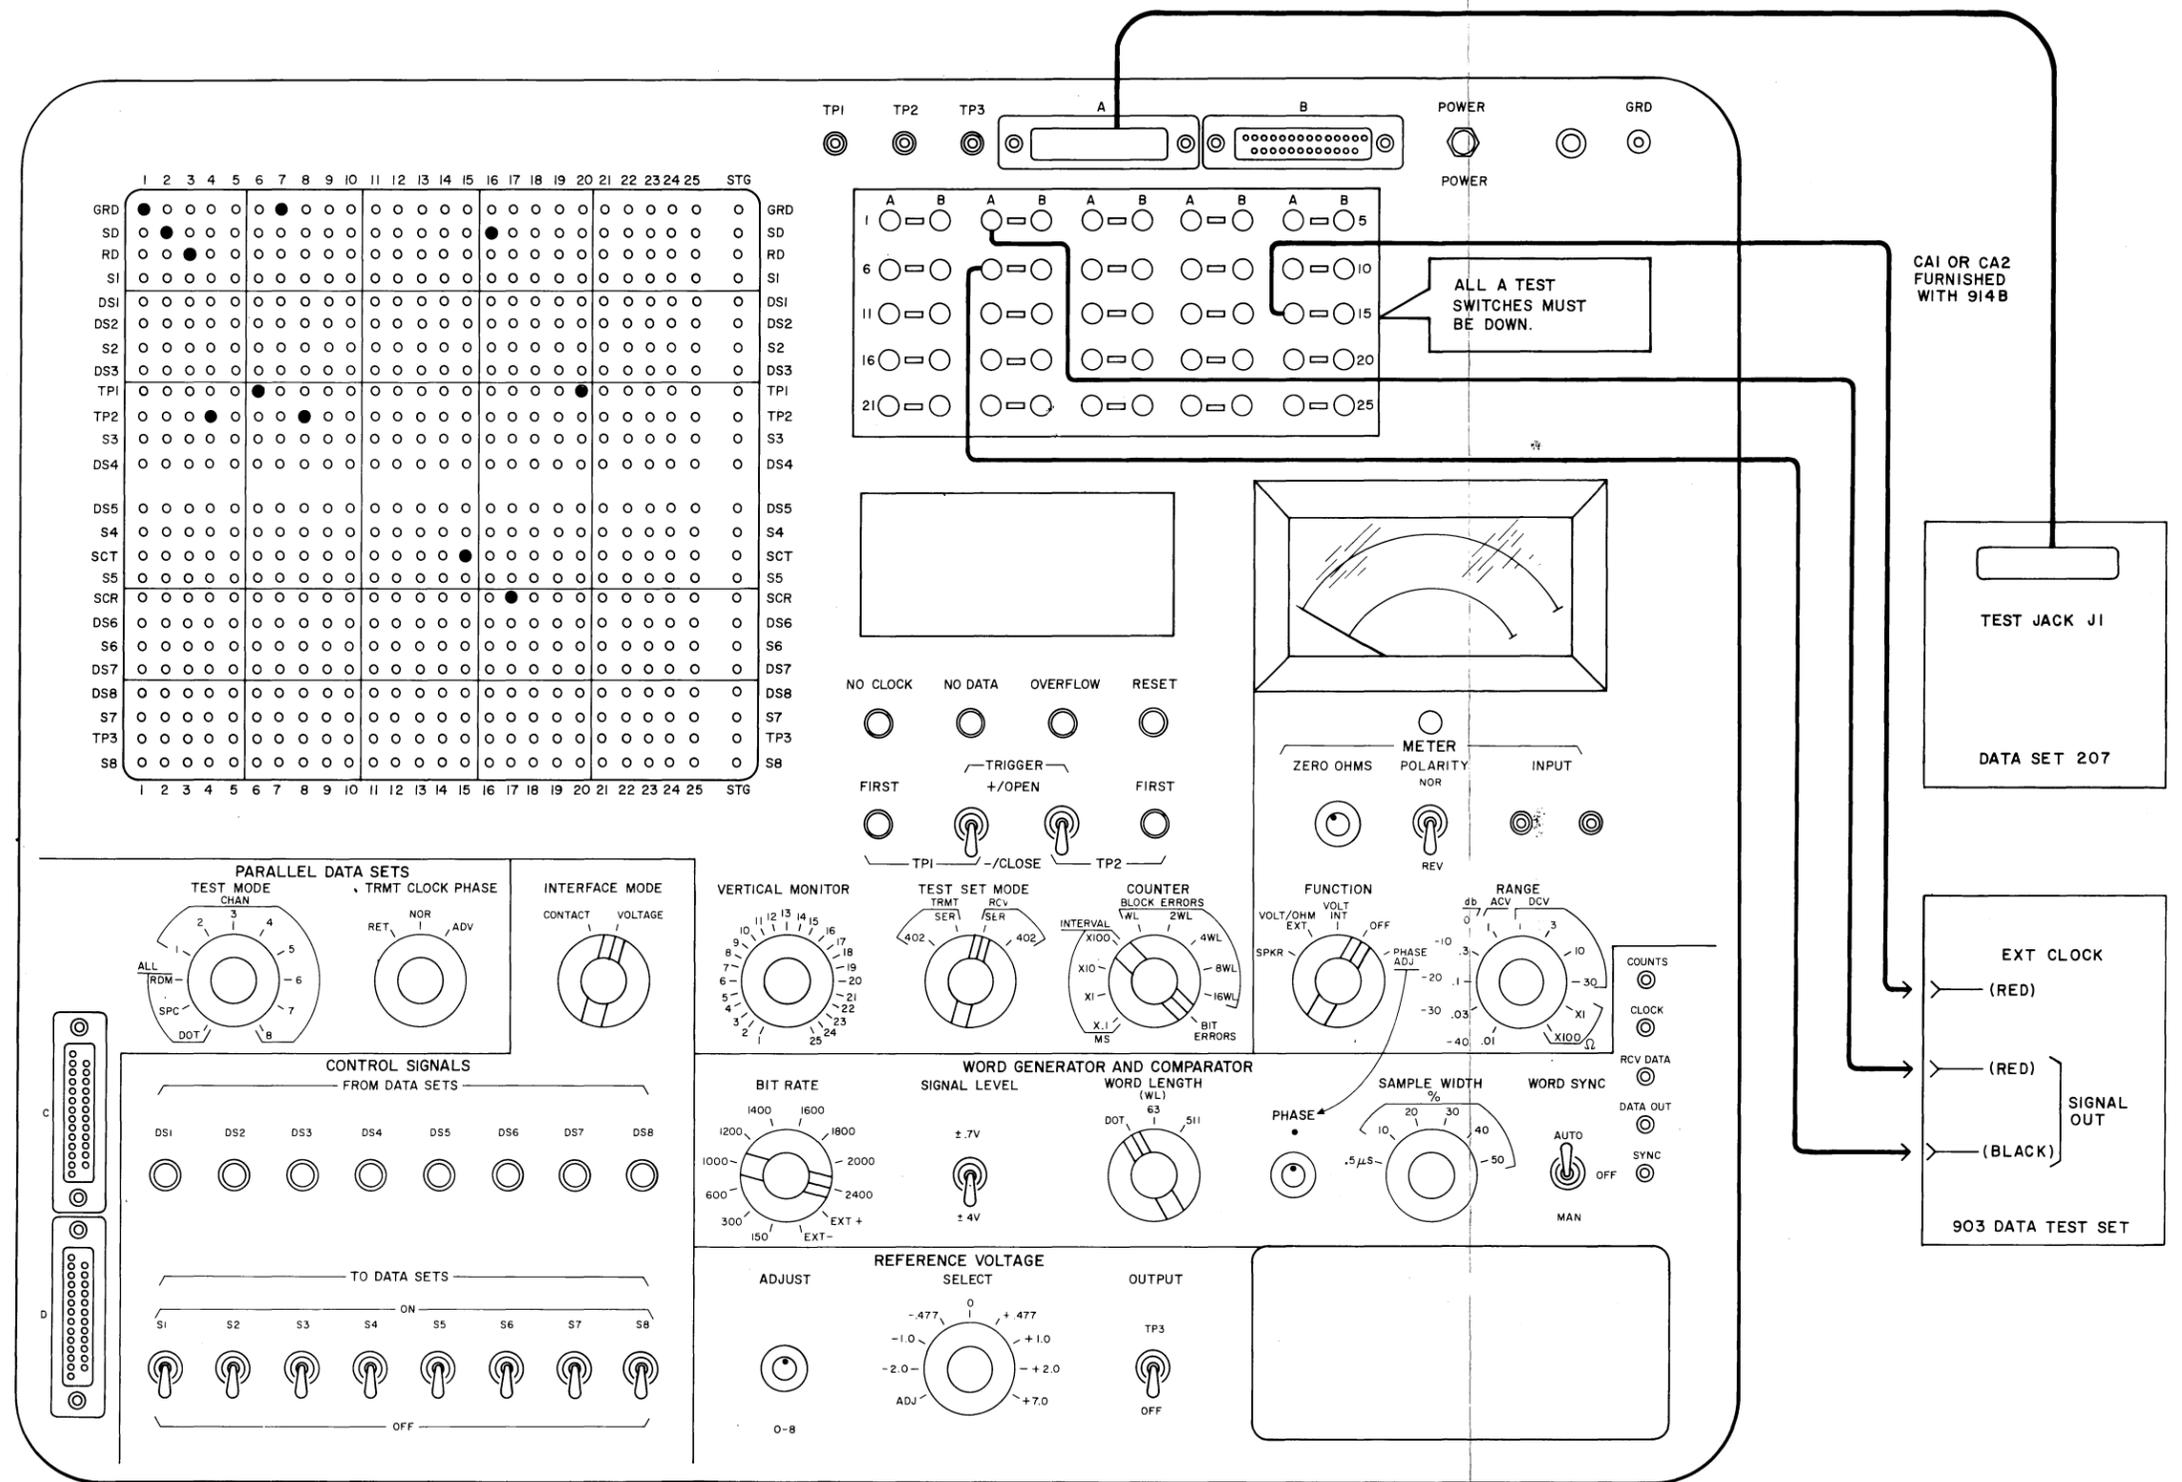

Fig. 4—Back-to-Back Test of Regenerator Data Set
- (b) Set up the 914B DTS as shown in Fig. 4.